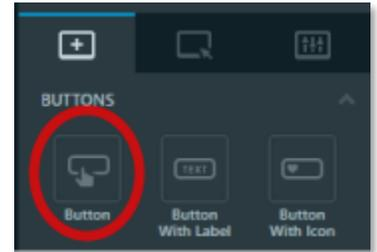

Figure 40
- For each menu item in the Main Menu, a dummy button was created by dragging a touchscreen button from the widget panel (see Figure 40) to an area of the canvas that is outside the active screen.